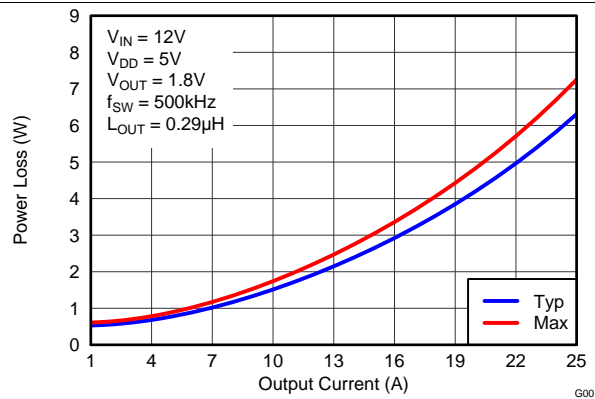
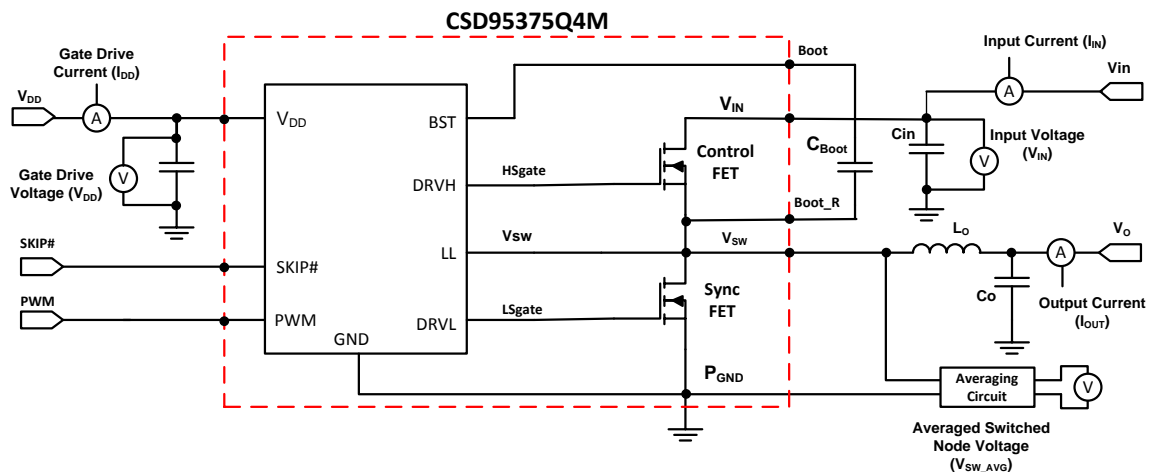

Figure 2. Power Loss vs Output Current
Figure 14. Power Loss Test Circuit
MOSFET centric parameters such as $R_{DS(ON)}$ and Q_{gd} are primarily needed by engineers to estimate the loss generated by the devices. In an effort to simplify the design process for engineers, Texas Instruments has provided measured power loss performance curves. Figure 2 plots the power loss of the CSD95375Q4M as a function of load current. This curve is measured by configuring and running the CSD95375Q4M as it would be in the final application (see Figure 14). The measured power loss is the CSD95375Q4M device power loss which consists of both input conversion loss and gate drive loss. Equation 1 is used to generate the power loss curve.
The power loss curve in Figure 2 is measured at the maximum recommended junction temperature of $T_{J1} = 125^{\circ}\text{C}$ under isothermal test conditions.
- Typical Power Loss at 10 A = 1.5 W (Figure 2)